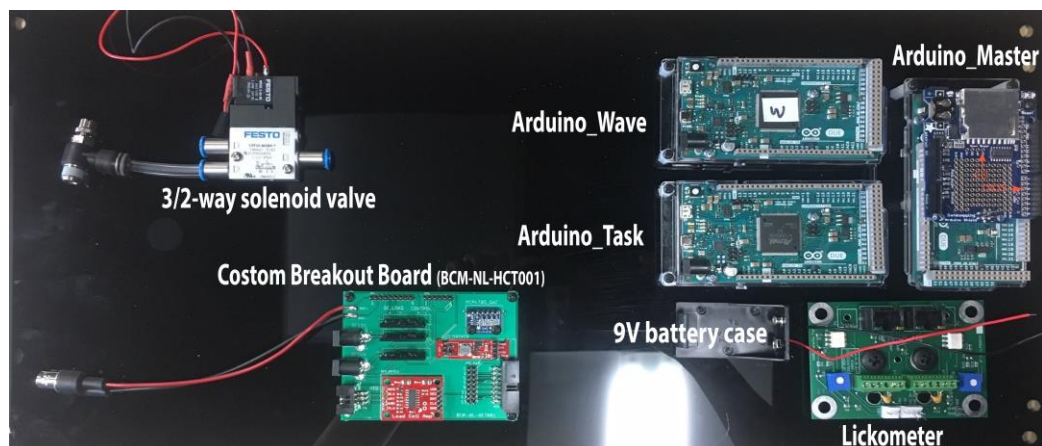

Fig. 2.3
- Fix three **Arduino boards** (Mouse, A000062), one custom **lickometer PCB**, one **9V battery case**, one **3/2-way solenoid valve** (FESTO, 196847) and custom breakout PCB on the enclosure right board (Fig.2.3). Assemble a **SD card shield** (<https://www.adafruit.com/product/1141>), connect DIO5 to CD via a jump wire, and insert the **SD card shield** into Arduino_Master board.